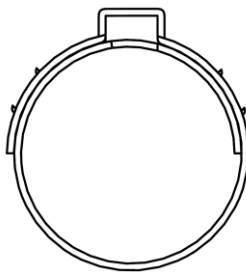
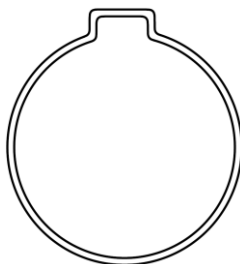

Figure 1: Assembled Ear Clamp
Figure 2: One Piece Ear Clamp
3.2 Shape and delivery. All clamps must be assembled in a round shape and supplied pre-closed (See Figure 1 or Figure 2).